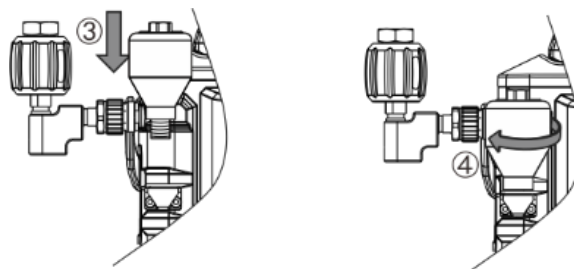

Figure 30 Install the accumulator
- ◆ After disassembly, install the new accumulator (installation steps shown in Figure 30).